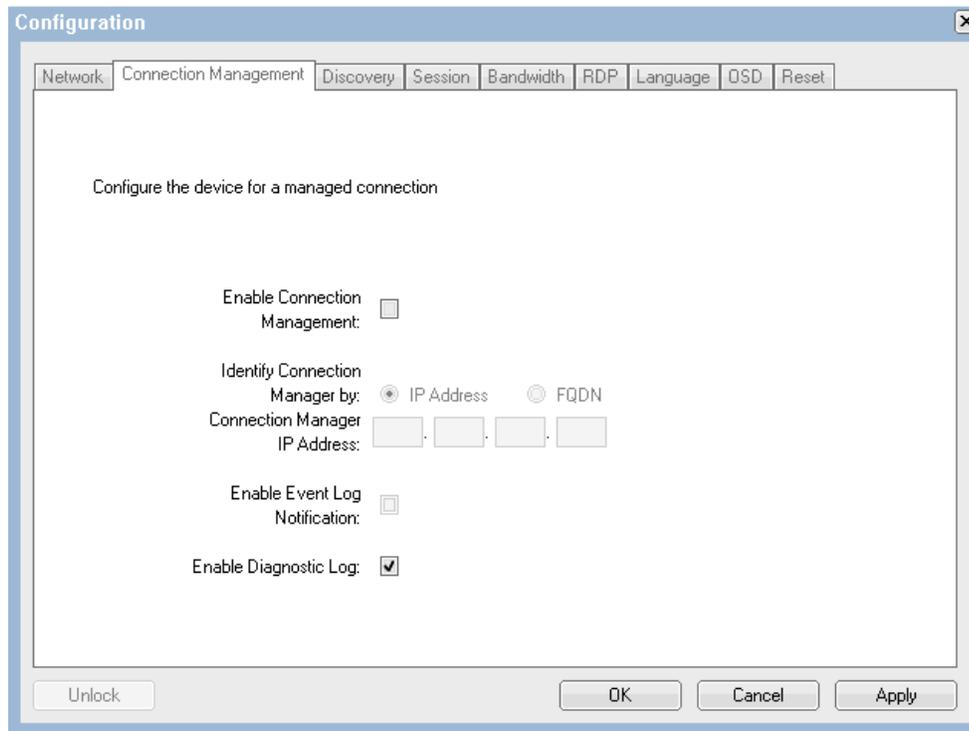

Figure 6-11 Connection management tab of the CP20 interface
The Connection Management tab allows you to configure the CP20 for a managed connection (see Figure 6-11). This tab allows you to configure the devices to use connection broker software for a managed connection.
**Note:** If **Enable Connection Management** is selected in the Connection tab as shown in Figure 6-11 on page 104, the Discovery feature is not used and settings on this tab are ignored.